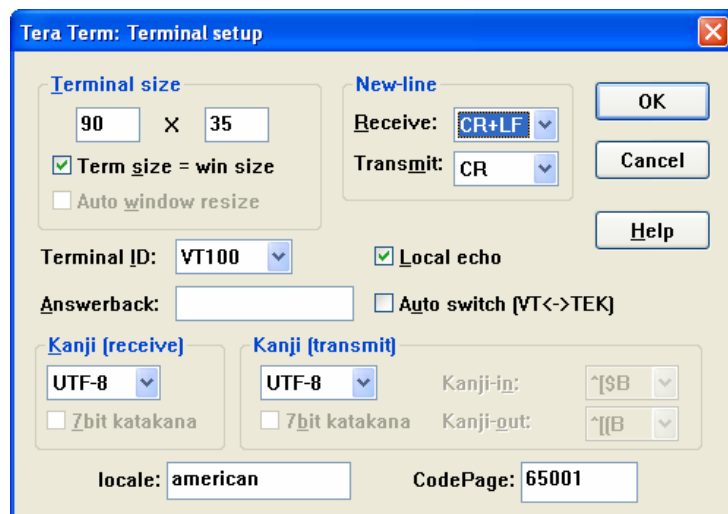

Figure 6-20: Terminal Setup Screen
22. Select these terminal properties, then click **O**K (Figure 6-20).